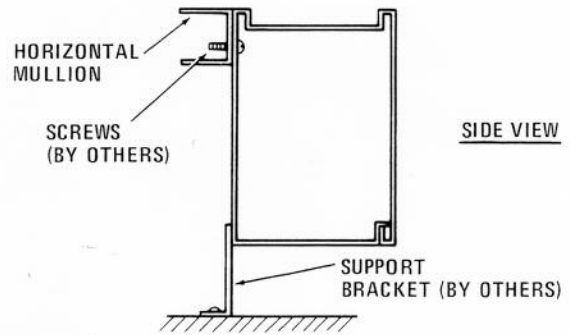

Figure 7
2. On horizontal mullion installation, install support brackets as shown in Figure 7.